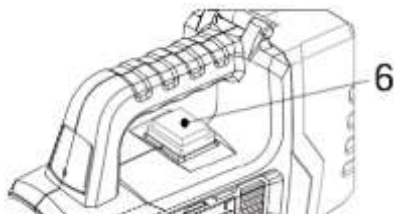

Fig. 1
1. Locate the power switch (#6) and ensure it is in the OFF position (Fig. 1).